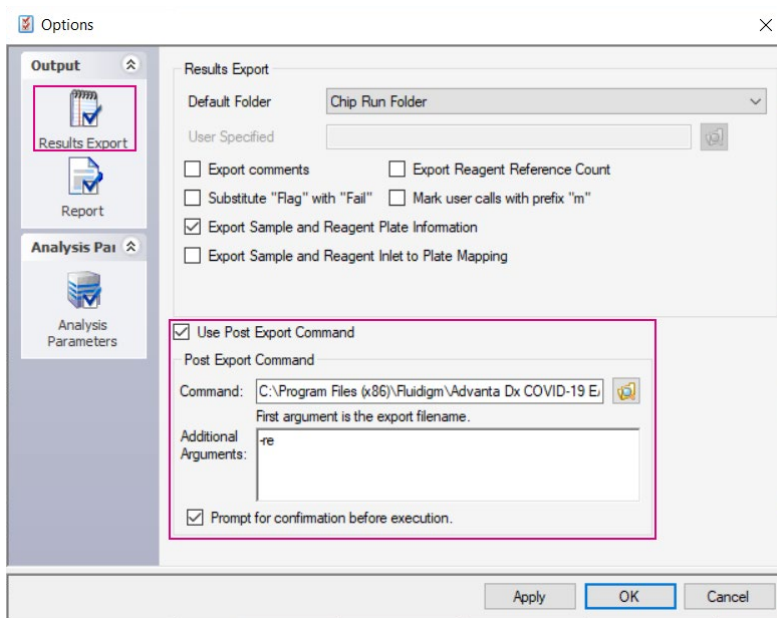

Figure 1. Results Export options
**b** Click **Results Export in the Output** section (Figure 1 on page 4).